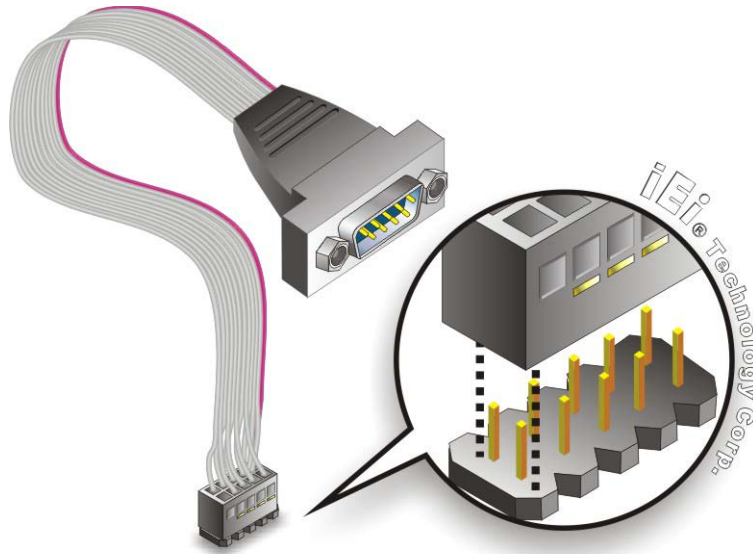

Figure 4-17: Single RS-232 Cable Connection
- Step 2: Align the connectors.** Align the RJ-45 connector on the LAN cable with one of the RJ-45 connectors on the NANO-HM650. See Figure 4-17.